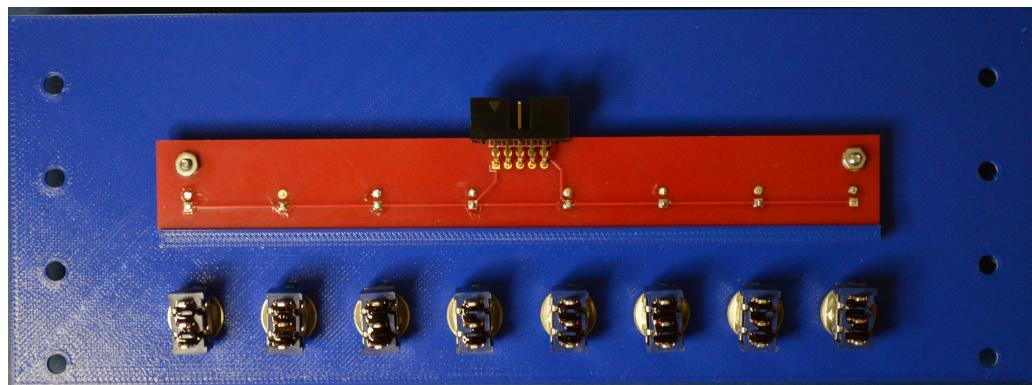

Figure 2.14: Control Panel Switches Showing Switches Installed
- Install the switches as shown in Figure 2.14.